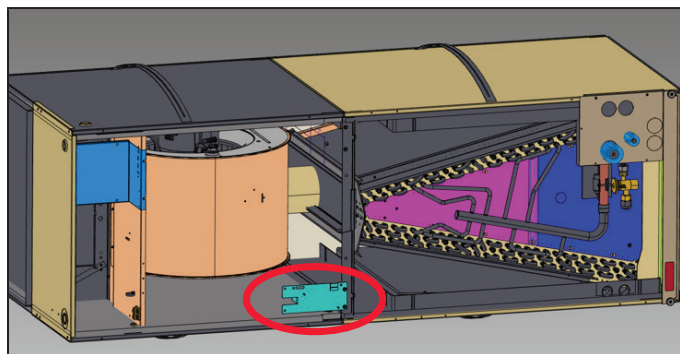

FIGURE 23
- 3 - After coil assembly and center support bracket are reinstalled into unit, with air handler unit panels removed, install sensor bracket assembly to the center support bracket by lining up the holes as shown in figure 23.